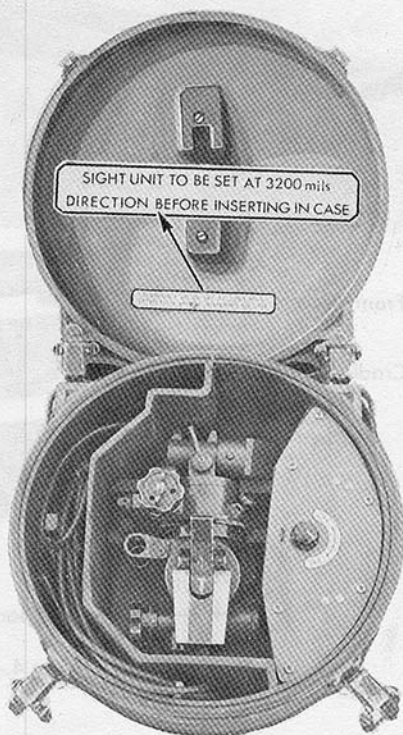

Fig 3.—Dial sight packing (old pattern case)
- a. The dial sight provides an auxiliary method of aiming at a target and will be taught in the later lesson. It fits into its box with its bracket uppermost (see Fig 3).